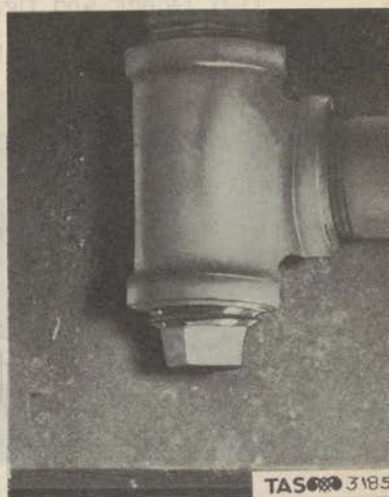

Figure 72. Discharge Pipe Drain Plug.
(11) Remove the drain plug from the discharge pipe. (This plug is near and below the front end of the spray tank and is reached by crawling under the truck. (Fig. 72)